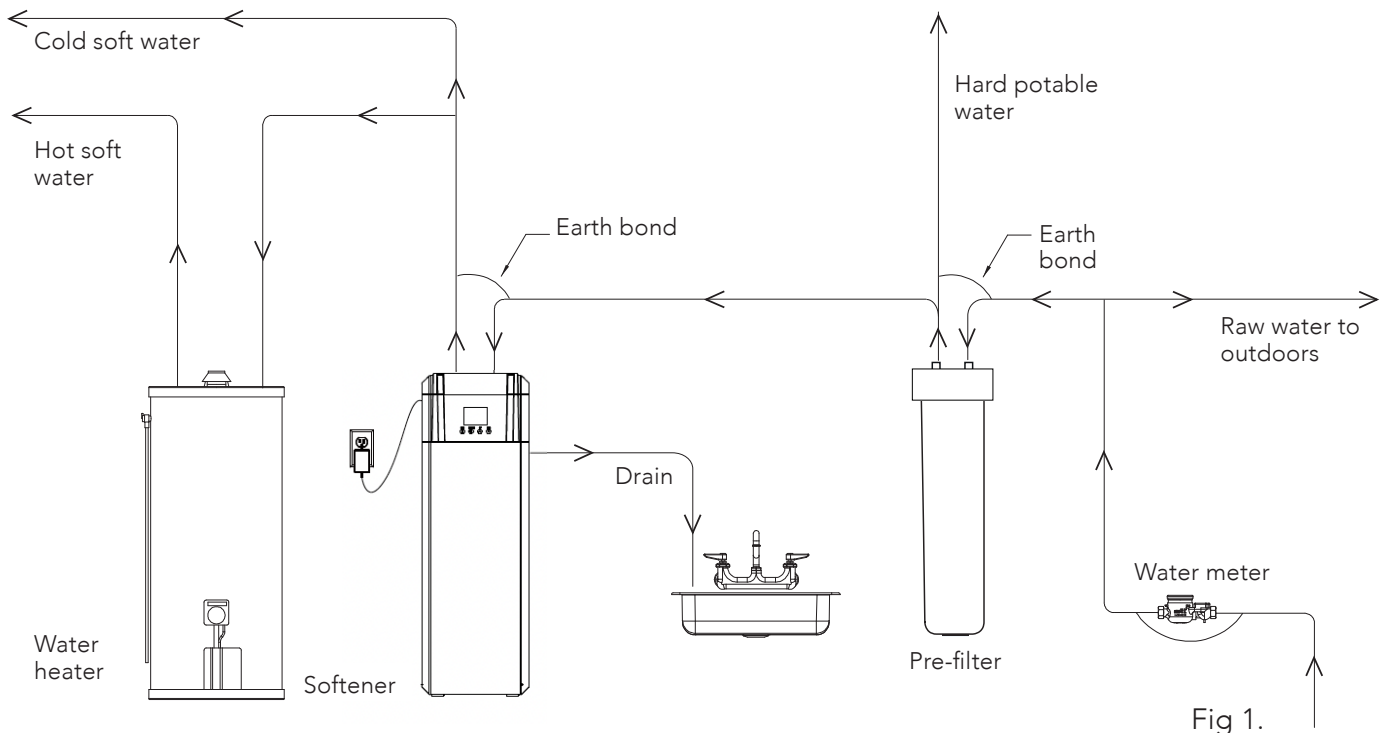

Fig 1.
3. Locate in line with pre filtration equipment (See Fig.1).
7. Determine if additional plumbing is required if you wish to bypass water used for a geothermal heat pump, lawn sprinkling, out-buildings or other high demand applications, refer to Fig.1.